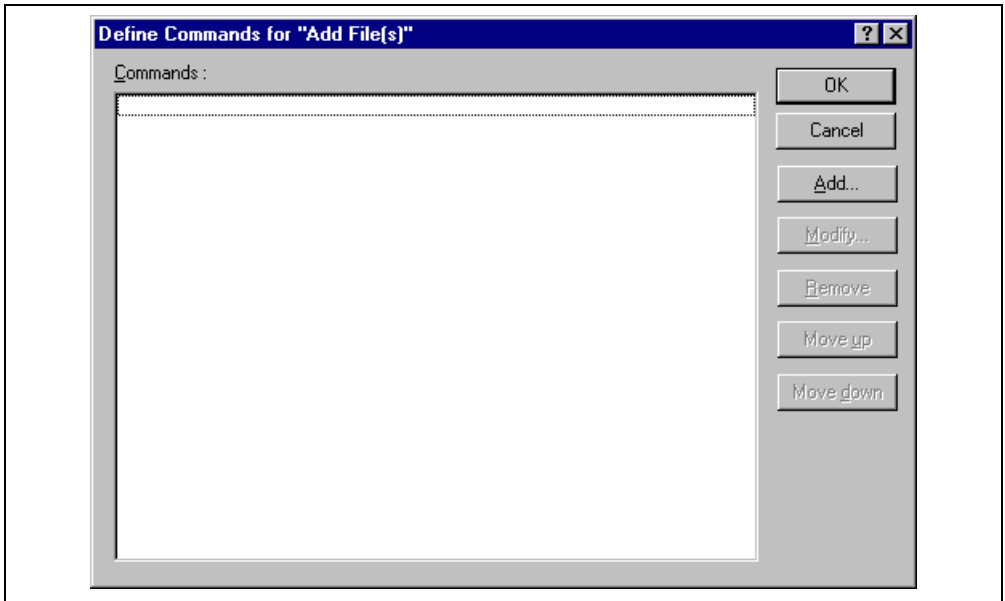
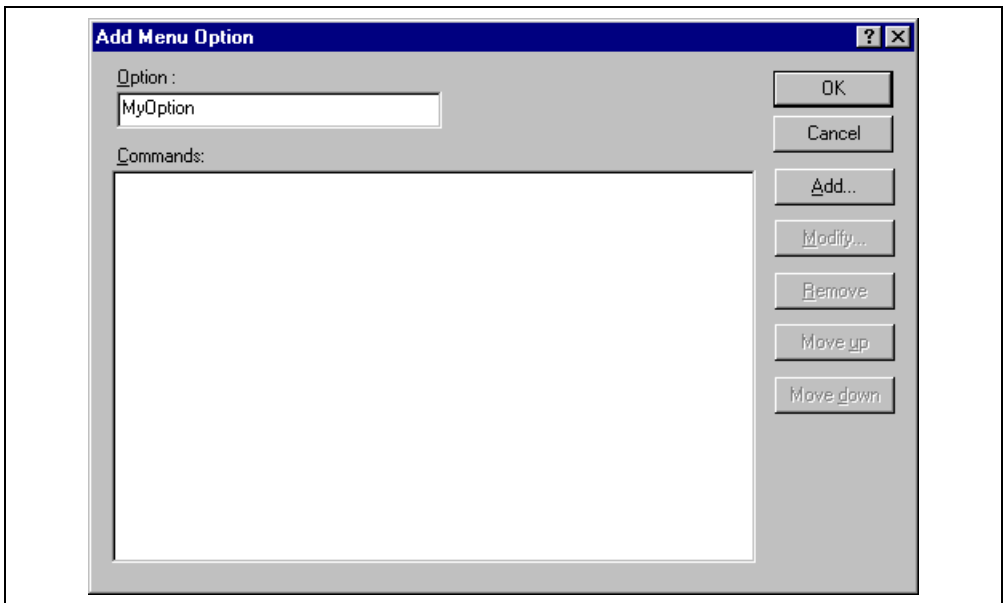
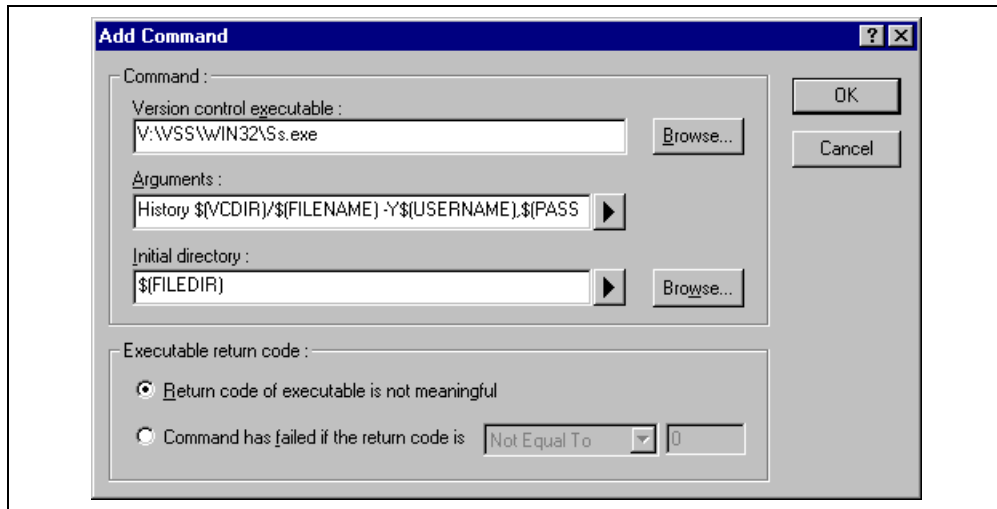

Figure 8.3: Modify System Menu Option (Example)
Figure 8.4: Add Menu Option Dialog
Figure 8.5: Add/Modify Command Dialog
2. Select the option to be modified from the “System menu options and toolbar buttons” list and then click the “Modify...” button. The dialog shown in * MERGEFORMAT figure 8.3 will be displayed. This figure shows a dialog when “Add File(s)” has been selected for example.
2. Click the “Add..” button. The dialog shown in * MERGEFORMAT figure 8.4 will be displayed.
2. Select the menu option to be modified from the “User menu options” list and then click the “Modify...” button beside the list. The dialog shown in * MERGEFORMAT figure 8.4 will be displayed. (The title of the dialog is “Modify Menu Option”.)
Commands are defined when the “Add...” or “Modify...” buttons are clicked on the dialogs shown in figure 8.3 and figure 8.4. In either case, the dialog shown in * MERGEFORMAT figure 8.5 is invoked.